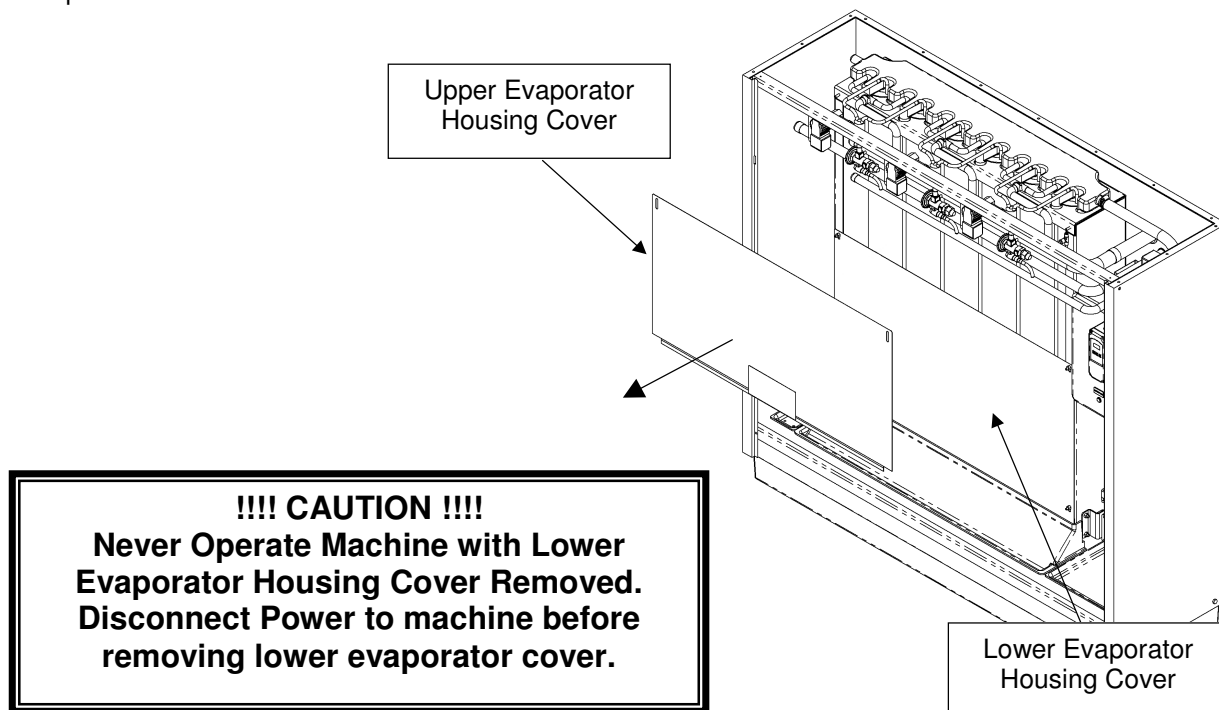

FIGURE 4-1
1. Make sure all packing has been removed from the lowside unit. To do this, you must remove the upper and lower evaporator housing covers. Remove to upper casing first, then the lower. (See Figure 4-1)